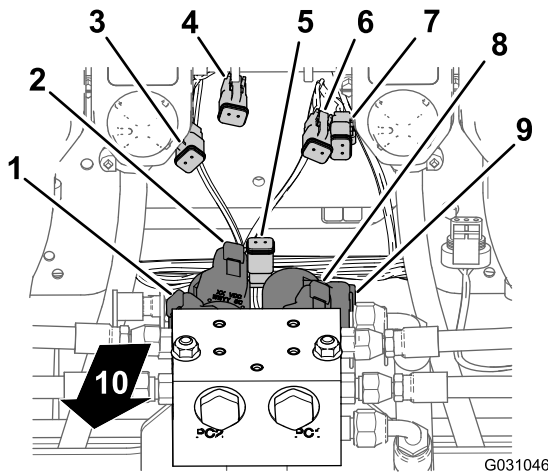
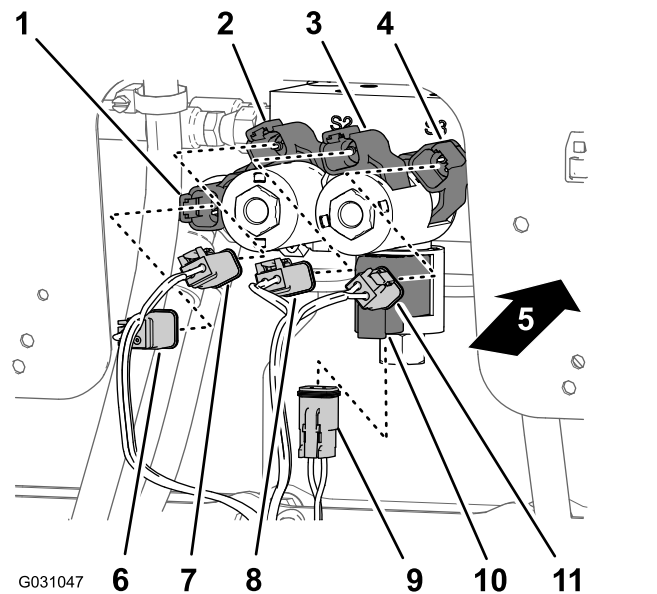

Figure 131
Figure 132
- At the bottom of the lift-cylinder manifold, connect the 2-socket connector of the rear wire harness labeled **Enable Solenoid** into the 2-pin connector for the enable solenoid (Figure 131 and Figure 132).
- At the lower right solenoid, connect the 2-socket connector of the rear wire harness labeled **Right Down** into the 2-pin connector for the right down solenoid (Figure 131 and Figure 132).
- At the upper right solenoid, connect the 2-socket connector of the rear wire harness labeled **Right Up** into the 2-pin connector for the right up solenoid (Figure 131 and Figure 132).
- At the lower left solenoid, connect the 2-socket connector of the rear wire harness labeled **Left Down** into the 2-pin connector for the left down solenoid (Figure 131 and Figure 132).